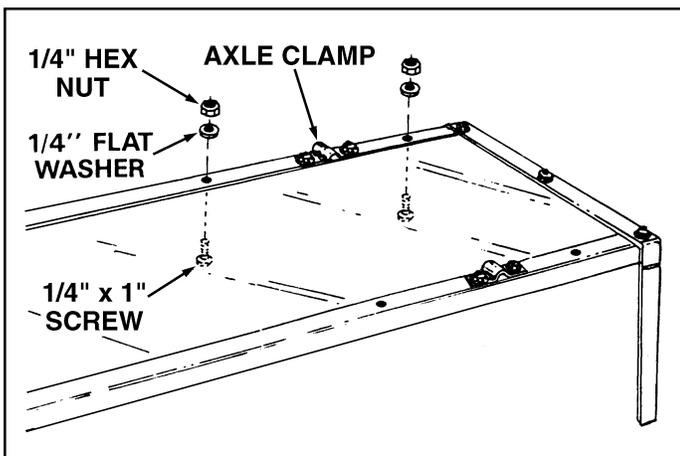

FIGURE 4
- Assemble four  $1/4"$  x  $1"$  screws, flat washers and hex nuts to the side angles and bottom panel using the holes on each side of the axle clamps. **Tighten the four nuts.** See figure 4.